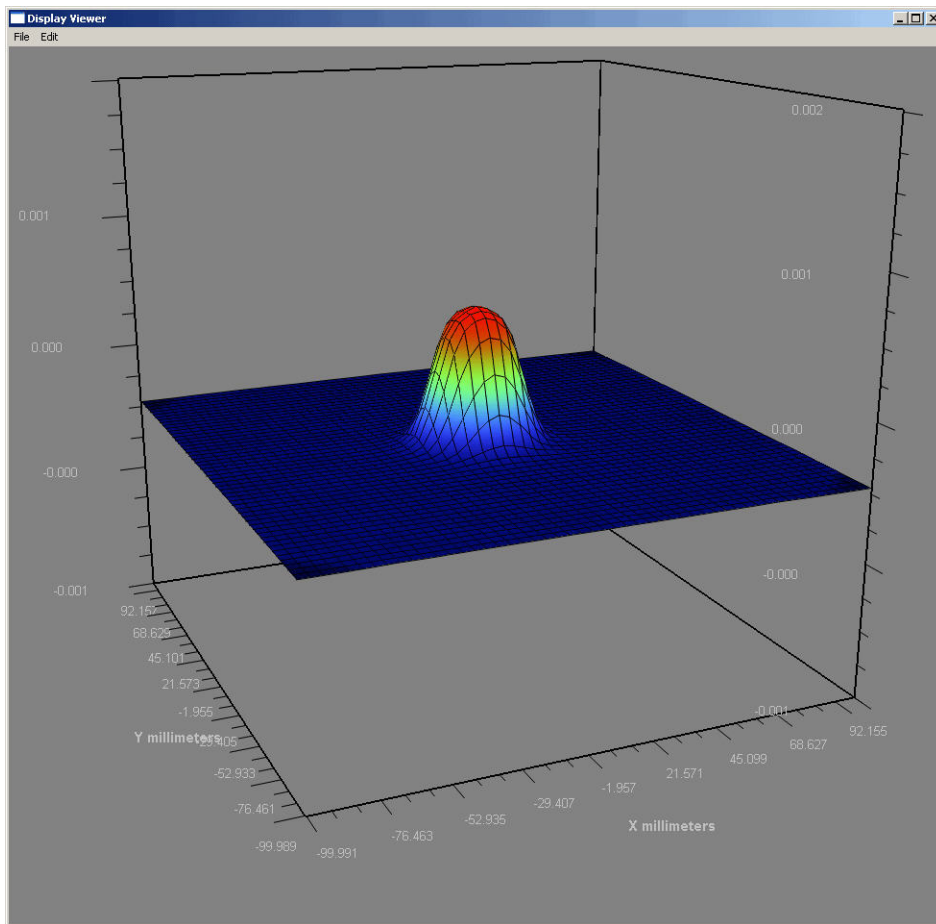

Figure 61 Display Viewer showing 3D view
- Try to print, copy, make it 3D, or any of the other useful, easy to use options. See Figure 61.